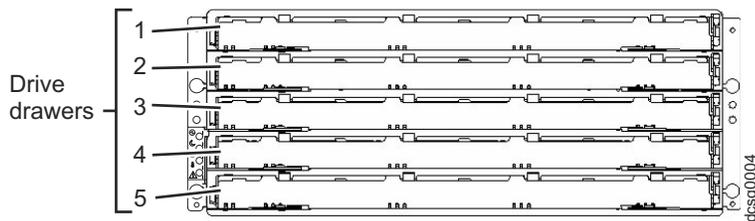
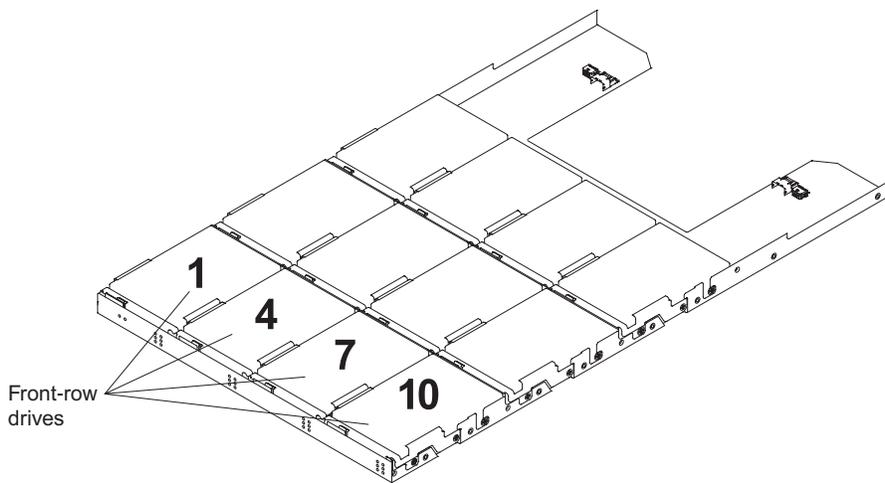

Figure 2. DCS3700 hot-swap drive drawers
Figure 3. DCS3700 drive drawer
Both the DCS3700 storage subsystem and DCS3700 expansion enclosure have five removable drive drawers that are accessible from the front of the enclosure (see Figure 2). Each drive drawer can contain up to 12 disk drives (see Figure 3). With the drive drawers fully populated, the DCS3700 can support up to 60 DDMs.
**Important:** The installation order within each drive drawer is from left to right in rows. Slots 1, 4, 7, and 10 must have a drive installed in these locations to ensure that there is sufficient airflow to the drives (see Figure 3). To verify these slots, consult the overlay on the front of each of the five drive drawers. Ensure that the four drives in each row are next to each other. The long edge of each drive must touch the drive next to it. To maintain uniform airflow across all drive drawers, the storage expansion enclosure must be configured with a minimum of 20 drives, with four drives in the front row of each of the five drive drawers.